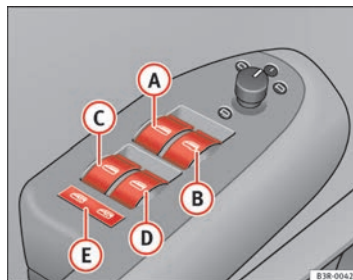

Fig. 79 Detail of the driver door: Control switches
- (A)** Switch ⇒ fig. 79 for the driver door window
- (B)** Switch for the front passenger door window.
The safety switch $\Rightarrow$ page 108, fig. 79 **E** can deactivate the rear door switches. The windows can only be operated from the rear when the safety switch is pressed in.